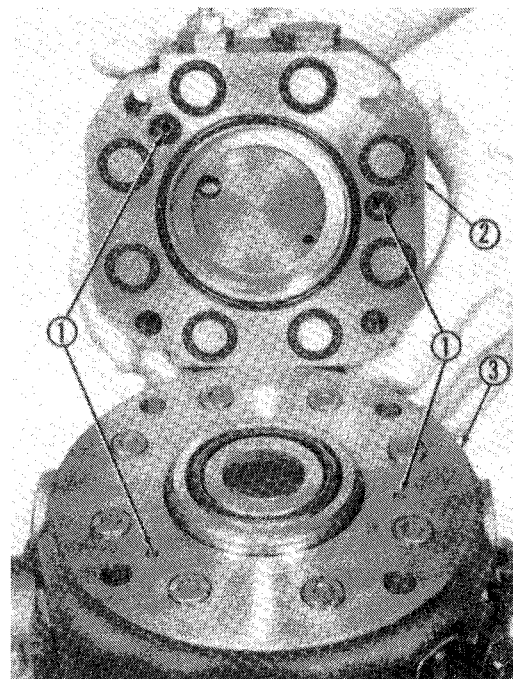

Fig. 231—When reinstalling stroke control valve housing (2), make certain high pressure passages (1) in valve housing and pump (3) are aligned.
CAUTION: Make certain high pressure passages (1—Fig. 231) in valve housing (2) and pump housing (3) are aligned. Failure to align passages will keep the pump in full stroke resulting in possible system damage.